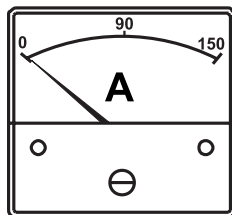

Figure 11. Ammeter (No Load)
8. The **ammeter** (Figure 11) will indicate **zero amps** with no load applied. When a load is applied, the ammeter will indicate the amount of current that the load is drawing from the generator.